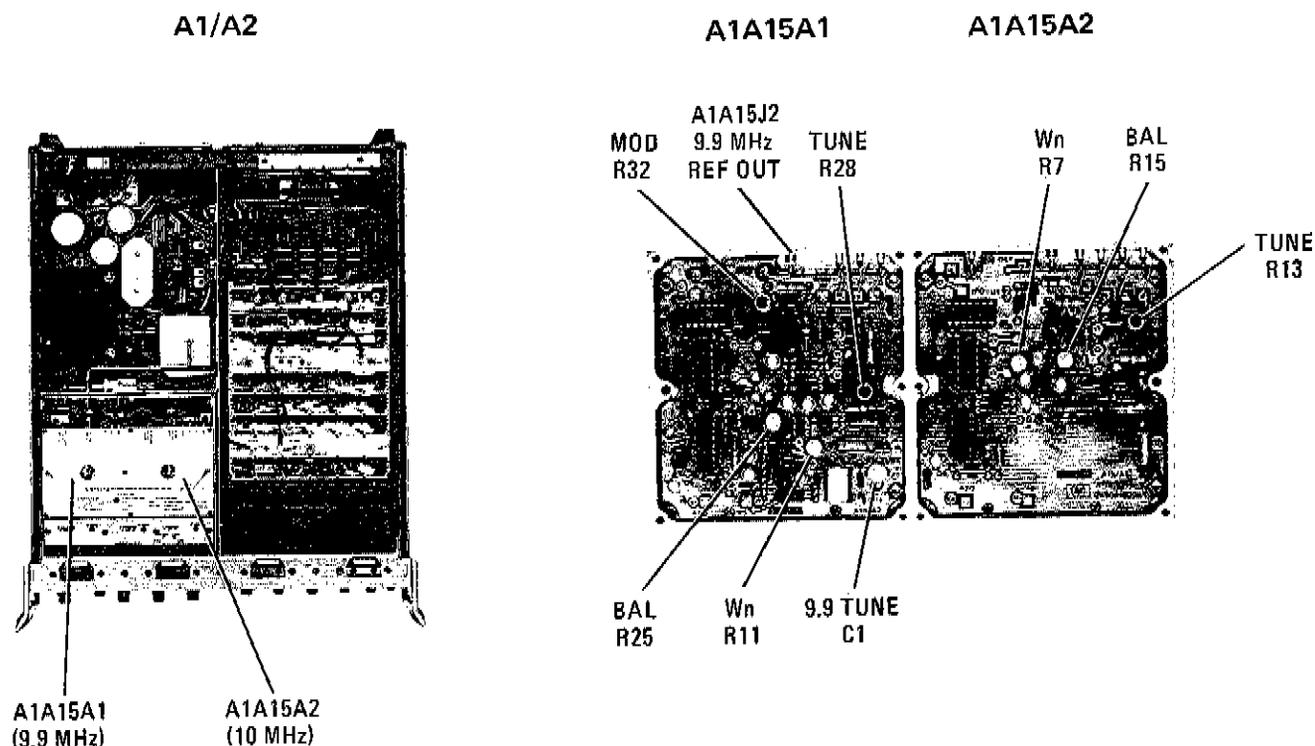

Figure A5-3. A1A15A1/A2 Adjustment Locations
- Connect a frequency counter to A15J2 (Figure A5-3). Adjust "9.9 TUNE" A1A15A1C1 for 9.9000 MHz ± 10 Hz (with cover on A1A15A1).
- a. On A1A15A2, connect DVM to TP3 and adjust "BAL" R15 for +1.8 Vdc. (See Figure A5-3.)